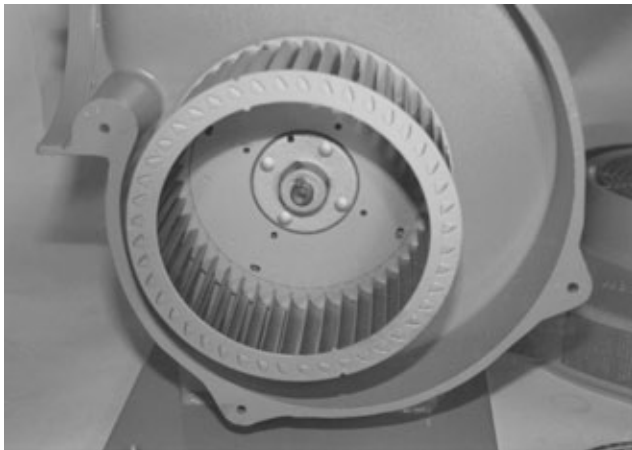

FIGURE 11
2) Loosen the set screw with the 5/32 inch Allen wrench and remove the blower wheel from the motor shaft. A wheel puller can be utilized if required. FIGURE 11. Clean as required with a safety solvent.